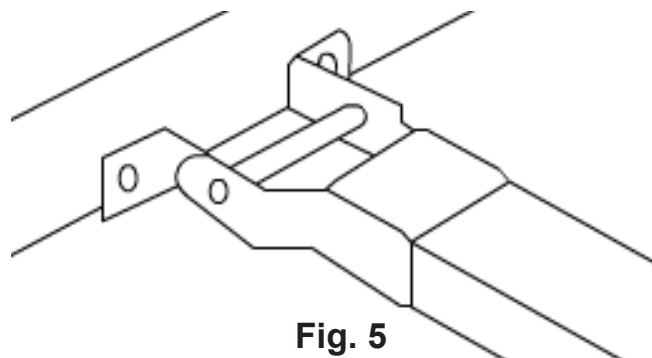
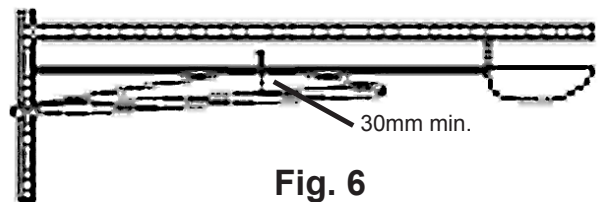

Fig. 5
Fig. 6
- 2.5) Fix the Smart Lifter opener to the lintel or to the ceiling with the correct fixing (Fig. 5), maintaining a minimum gap of 30mm from the top panel's maximum height (Fig. 6). Check measurements before drilling.